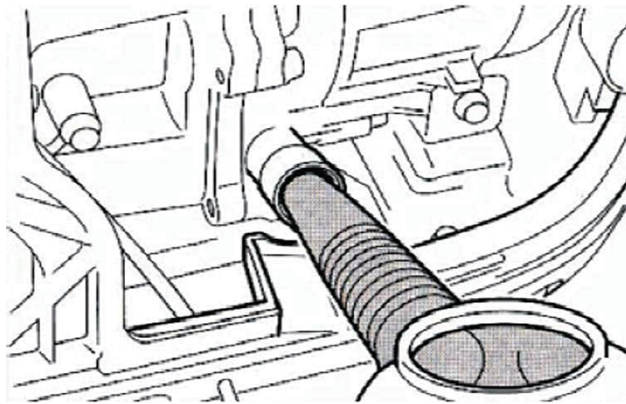
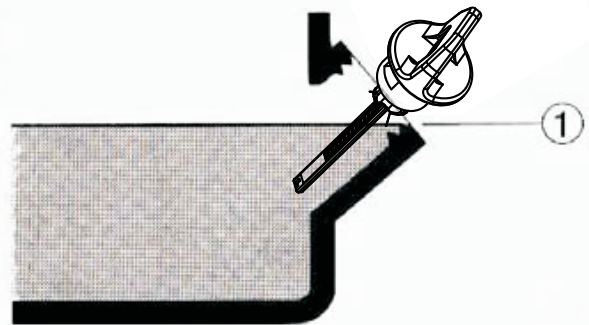

Figure 3
Figure 4
Using the funnel (provided) fill with 0.38L quart of SAE 10W-30 or 10W-40 (provided) (see figure 3). See figure 4 for proper oil level ①.